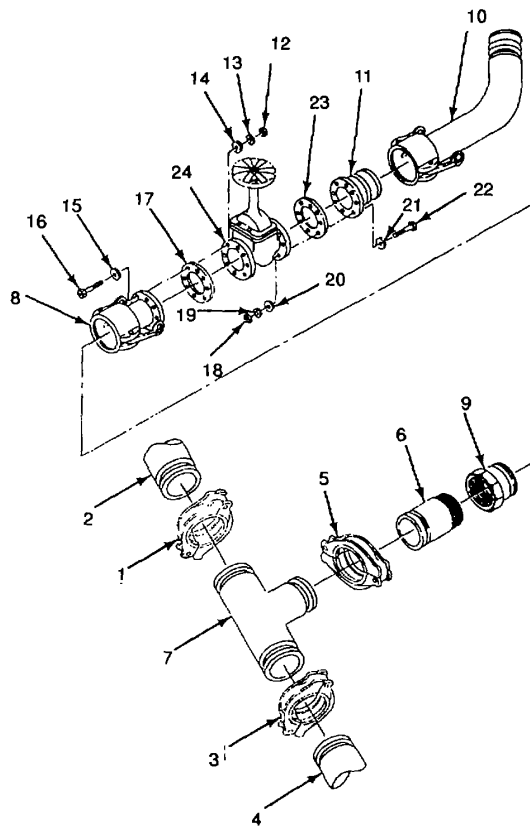

Figure 2-43. Disassemble Storage Assembly
- (1) Remove 6-inch boltless coupling (1, Figure 2-43) (para. 2-8.c.) connecting reducing tee (7) to upline hoseline (2).